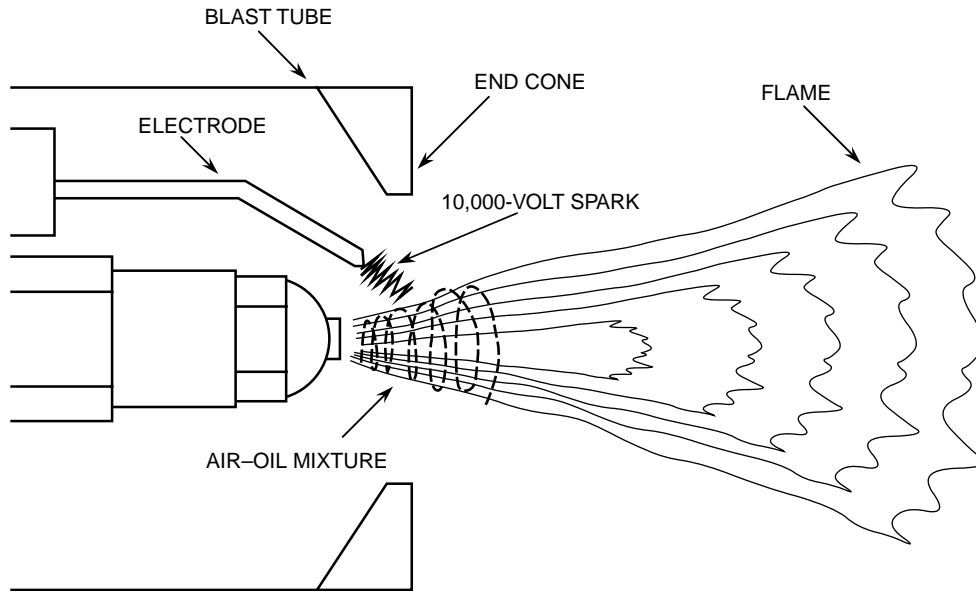

Figure 7-1 The electrode tips are set so that the ignition spark grazes the edge of the air-oil spray as it leaves the end of the oil burner.
1. The setting of the electrode tips to deliver the spark where it can graze the air–oil mixture as it leaves the burner is absolutely essential to achieve smooth light off (see Figure 7-1). The oil spray must not touch the tips of the electrodes. If that happens, a carbon bridge will form between the tips and short-circuit the spark. The result will be a safety lockout of the burner. There are several diagrams of electrode settings supplied by burner manufacturers found in this chapter. It is always advisable to follow the instructions that are sent with the burner. Some manufacturers have devised electrodes that can fit in only the exact place to ensure smooth light off. This is an attempt to eliminate human error, which has been a serious problem with oil burners in the past. Remember, the spark will take the easiest path to a grounded surface rather than jump between the electrode tips. To prevent this, the setting of the distance between the tips must be smaller than the distance between any metal part of the electrode and a grounded metal part of the burner—like the flame retention head.